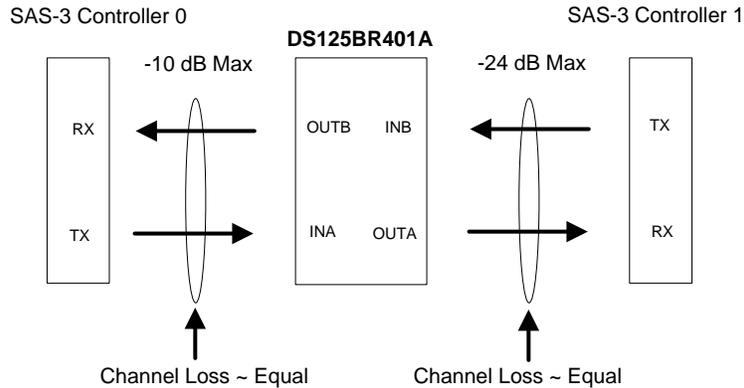

Figure 8. Typical System Configuration
- Limit the maximum losses according to Figure 8.